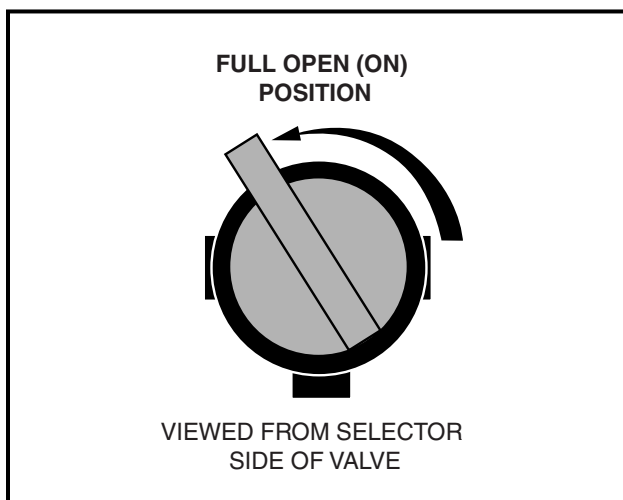

Figure 3-5 Fuel Valve – Open
5. Completely open fuel shut-off valve (**Figure 3-5, Page 3-3**). A partially closed fuel valve (**Figure 3-7, Page 3-4**) combined with the use of the choke, can result in a fouled spark plug and engine failure.